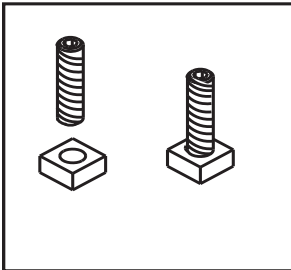

Figure 17.1
1. Thread Allen bolts through nuts until flush. **Figure 17.1.** The Allen bolts and nuts are included in the component pack inside the appliance firebox.